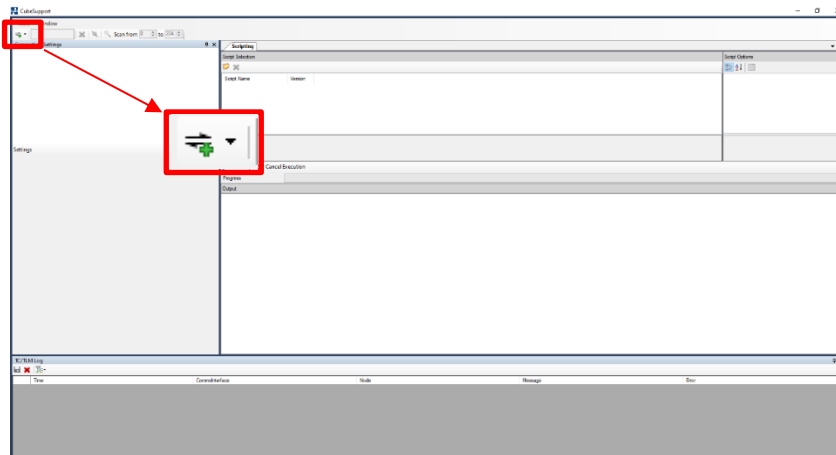

Figure 3 – Add connection to CubeSupport
- Before powering on the ADCS, get the **CubeSupport** application ready on the PC. The **CubeSupport** application is supplied on the USB along with the **CubeADCS** unit. Launch the **CubeSupport** application .exe which can be found in the **CubeSupport** folder on the CubeSpace USB. The **CubeSupport** application will open a window as shown in Figure 3.
- Click on the add connection icon  in **CubeSupport** as indicated in Figure 3. This will detect the UART-to-USB cable and list the connection.